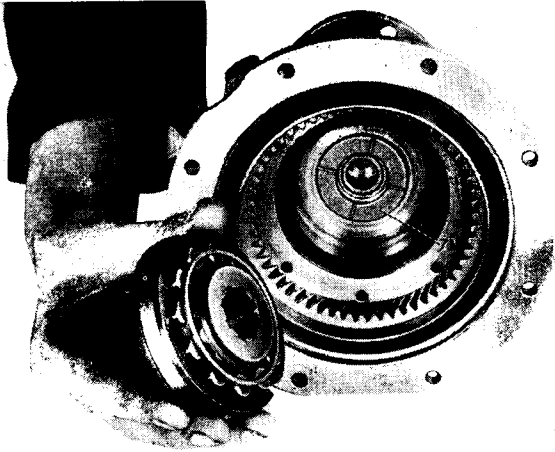

Fig. 28. Fitting uni-directional clutch to annulus
Refit the thrust washer (71) and uni-directional clutch (Fig. 28) transferring the clutch direct from the assembly tool. Fit the brass oil thrower ring (68) and secure with circlip (67).